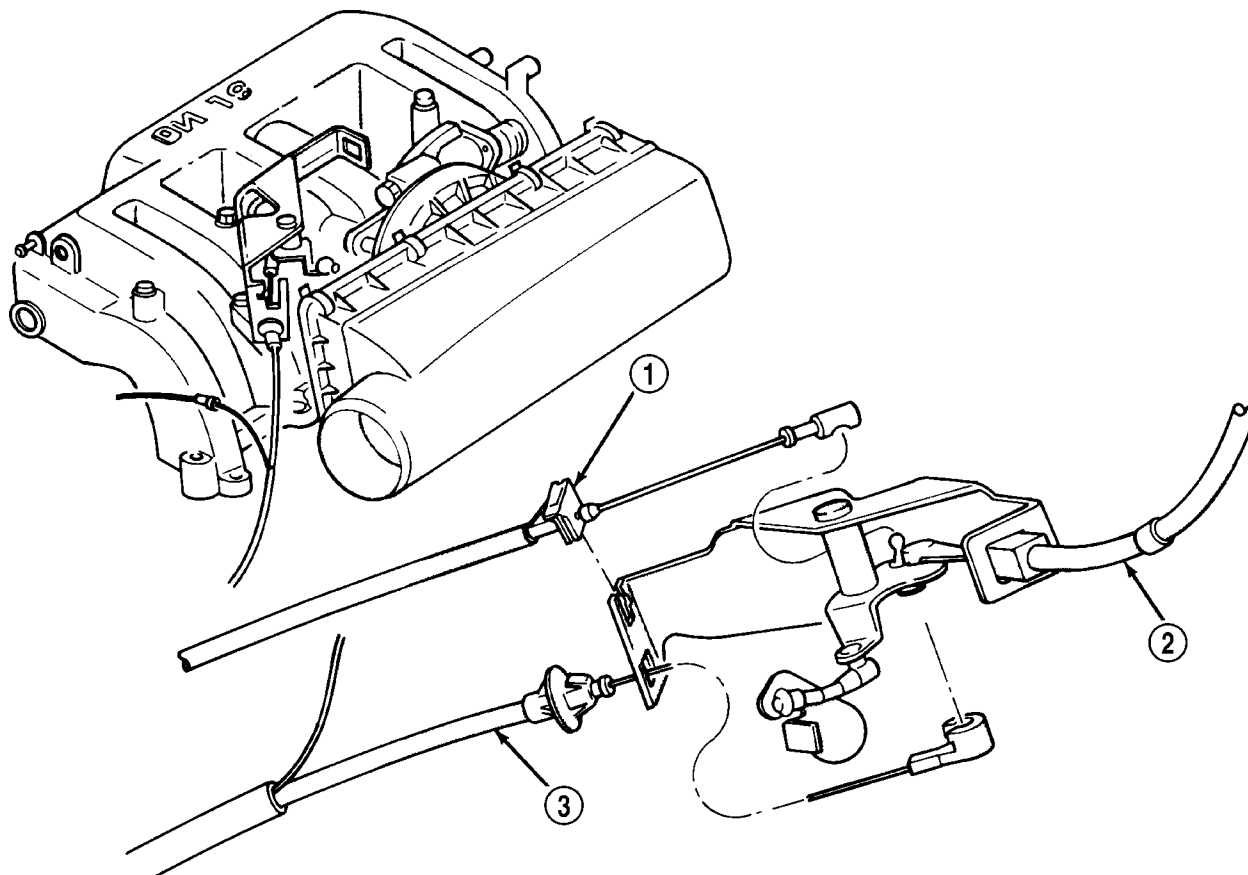

Fig. 6 SERVO CABLE AT THROTTLE BODY — 8.0L V-10 ENGINE
- (1) Disconnect negative battery cable at battery.
- (2) Using finger pressure only, remove speed control cable connector at bellcrank by pushing connector off the bellcrank pin (Fig. 6). **DO NOT try to pull connector off perpendicular to the bellcrank pin. Connector will be broken.**
- (3) Squeeze 2 tabs on sides of speed control cable at throttle body mounting bracket (locking plate) and push out of bracket.